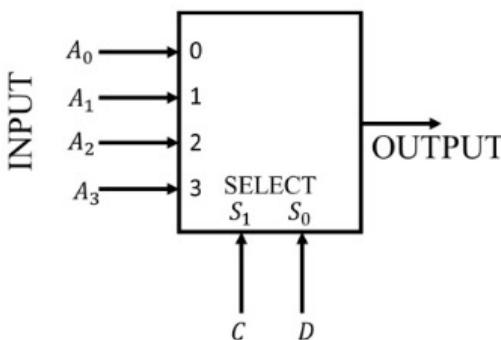

Fig. 4.23: MUX
40. Consider the 2-bit multiplexer(MUX) shown in Fig. 4.23. For OUTPUT to be the XOR of C and D, the values for  $A_0, A_1, A_2$  and  $A_3$  are \_\_\_\_\_ (GATE EC 2022)